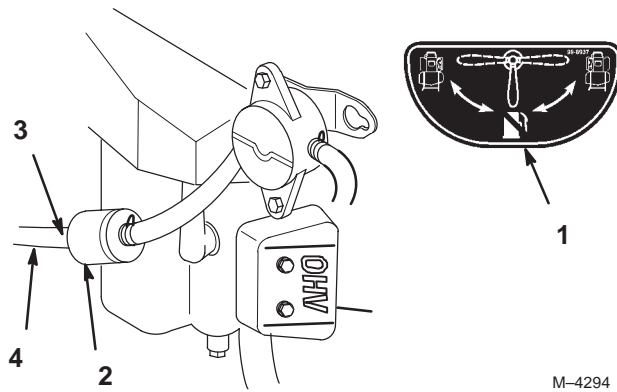

Figure 44
5. Install a new filter and move the hose clamps close to the filter (Fig. 44).
2. Close fuel shut-off valve (Fig. 44).
3. Loosen the hose clamp at the fuel filter and slide it up the fuel line away from the fuel filter (Fig. 44).
4. Pull the fuel line off fuel filter (Fig. 44).
5. Open fuel shut-off valve for left and right tanks. Allow gasoline to drain into a gas can or drain pan. (Fig. 44).
6. Install the fuel line onto the fuel filter. Slide the hose clamp close to the fuel filter to secure the fuel line (Fig. 44).